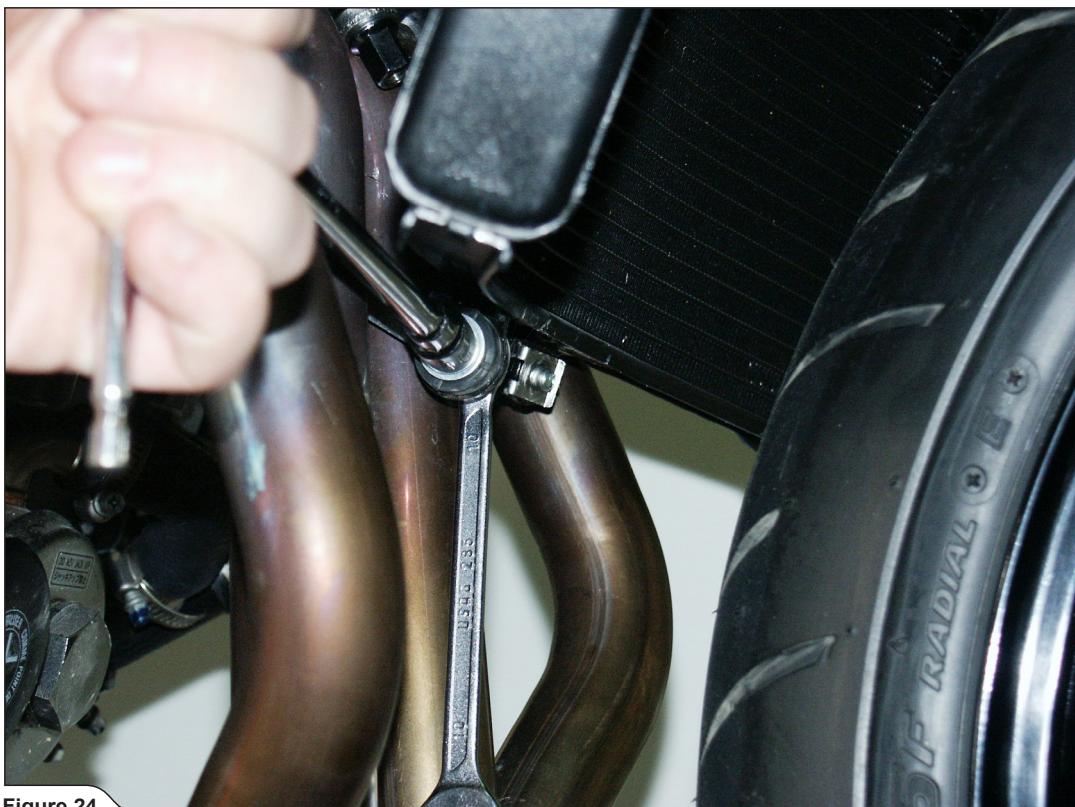

Figure 24
9. Unscrew the bolt from the lower water cooler hanging bracket and slightly remove the cooler. Make sure not to damage the cooling fins of the cooler (**Figure 24**).